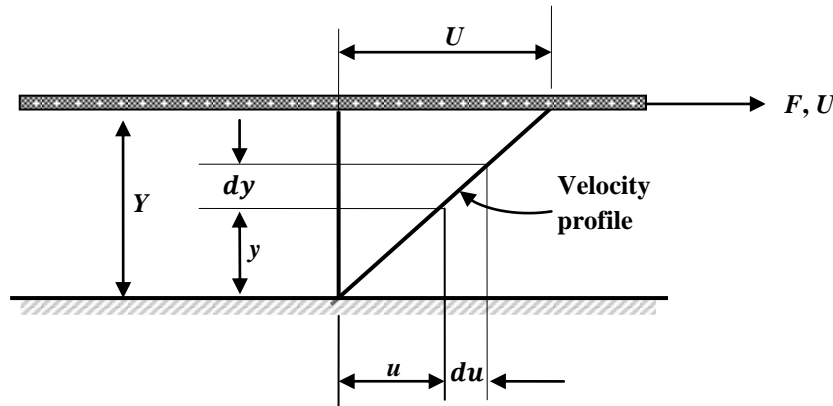

Figure 1.2 Laminar flow
1. **Laminar flow:** This is also known as streamline or viscous flow and is illustrated in Fig.1.2. In streamline flow, the fluid appears to move by sliding of laminations of infinitesimal thickness relative to adjacent layers; that is, the particles move in definite and observable paths or streamlines. The flow characteristic of a viscous fluid is one in which viscosity plays a significant part.